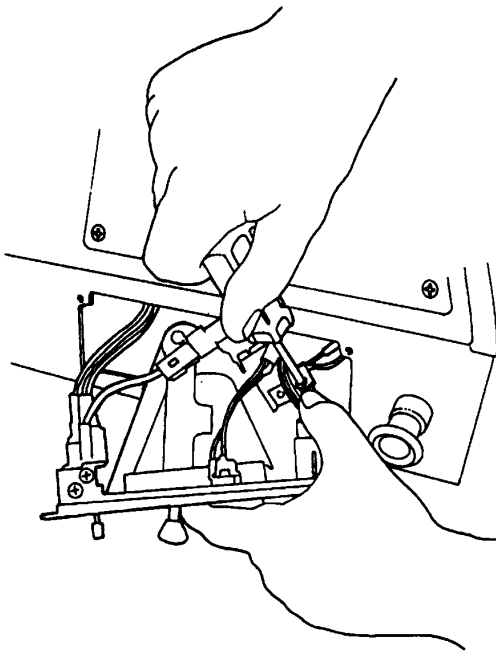

Figure 56 Control Cable End Remove/Install
4. Remove screws securing control cables to control assembly and detach cables from control assembly levers (Figure 56).
1. Attach control cable end to control assembly lever, insert screw and tighten (Figure 56).
7. Remove screw securing HOT-COLD control cable to control assembly (Figure 56).
3. Connect cable end to HOT-COLD cable lever on control assembly (Figure 56).